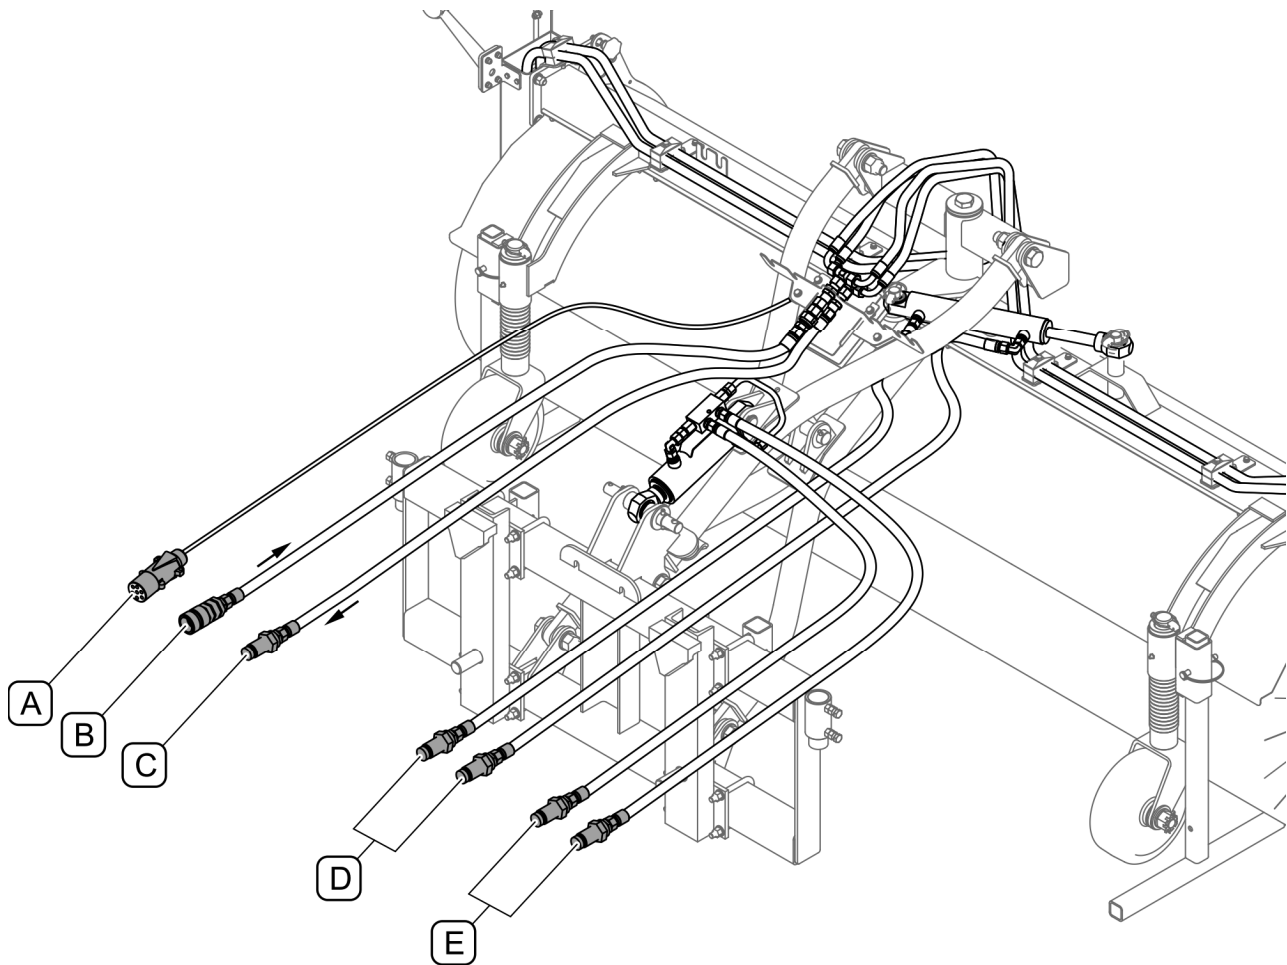
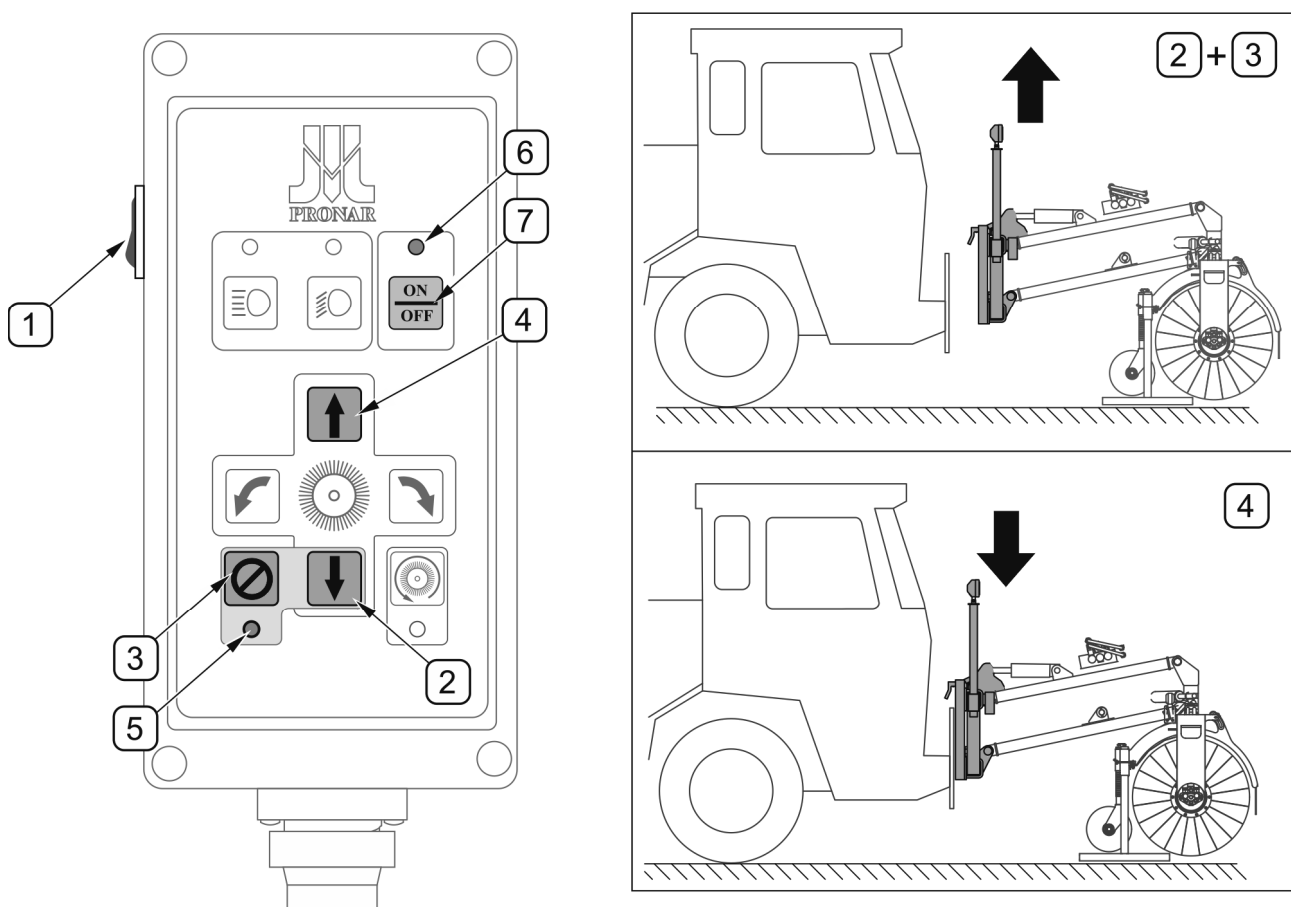
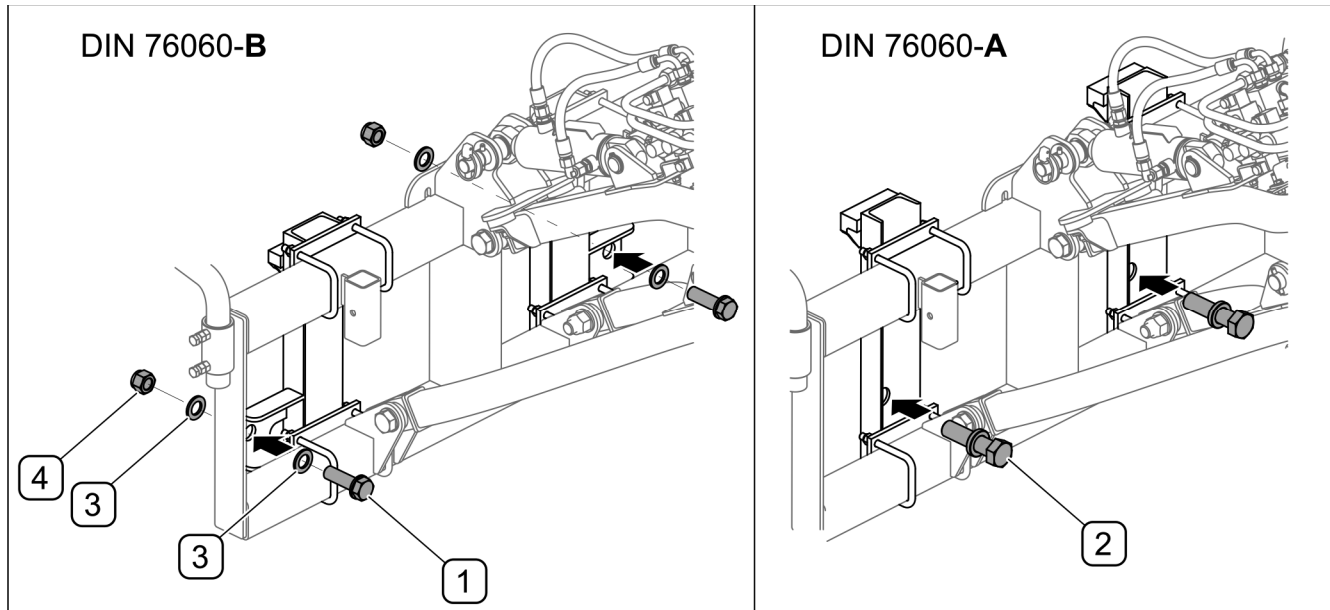
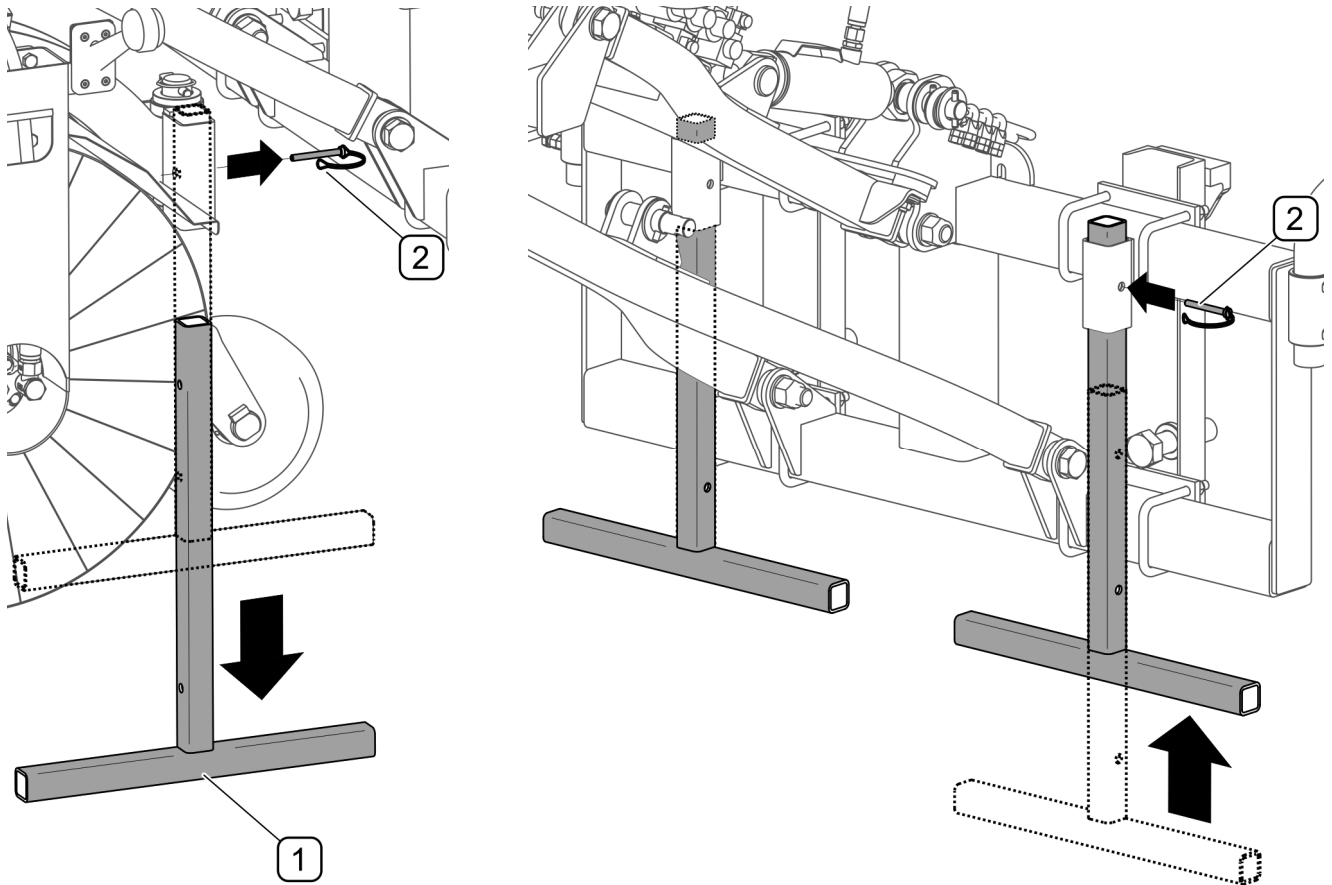

FIG. 4.4 Connecting the electrical system and hydraulic system (ZM-S25U)
FIG. 4.6 Controlling the sweeper during hitching to carrying vehicle (ZM-S25)
FIG. 4.7 Bolts securing the sweeper's linkage (sweeper's equipment)
FIG. 4.8 Dismantling parking stands
ZM-S25U sweeper (for MB UNIMOG vehicles) is designed for connecting with the external hydraulic system of the carrying vehicle (FIG. 4.4). Connect hydraulic conduit connectors (B),(C),(D), (E) and supply plug (A) of the sweeper's clearance lights to proper sockets on the front of the carrying vehicle (FIG. 4.4).
- 2) Turn on the control panel with the switch (1) (FIG. 4.6), all indicator lights will light up (for approx. 1 sec.) And go out except for the yellow (6) ON/OFF which flashes. After pressing the (7) ON / OFF button the panel is active, the lamp (6) is on. While pressing the buttons (2) and (3) simultaneously, raise the sweeper suspension system so that the mounting hooks are above slots of mounting plate.
- 4) If the mounting hooks and the carrying vehicle head plate are correctly aligned, operate switch (4) on the control panel (FIG. 4.6) in order to lower the sweeper's linkage onto the carrying vehicle's head plate. Check if correctly installed. Lift the sweeper and check if correctly hitched. Using two bolts, connect the frame of the sweeper's linkage with the carrying vehicle's head plate (FIG. 4.7). Dismantle both parking stands (FIG. 4.8). Place the control panel in the operator cab in an easily accessible place.
While hitching and unhitching from the carrying vehicle, the machine should rest on the ground on parking stands. In order to raise the sweeper's linkage while hitching to the carrying vehicle, press simultaneously brush lowering push-button (2) and linking push-button (3) on the control panel (FIG. 4.6). In order to lower the sweeper's linkage, press brush rising push-button (4).
- 1) Drive the carrying vehicle to the sweeper's linkage to a distance of about 30 cm from the linkage and immobilise the vehicle with parking brake. Connect hydraulic conduit connectors (FIG. 4.4) to corresponding sockets of the external hydraulic system on the front of the carrying vehicle.
- 4) If the mounting hooks and the carrying vehicle's head plate are correctly aligned, lower the sweeper's linkage until the mounting hooks are set in the seats of the carrying vehicle's head plate. Using two bolts, connect the frame of the sweeper's linkage with the carrying vehicle's head plate (FIG. 4.7). Lift the sweeper and check if correctly hitched. Connect the supply plug of the clearance lights (FIG. 4.4) to the socket of the carrying vehicle's electrical system. Dismantle both parking stands (FIG. 4.8).
(1) - bolt M24X80-8.8-A2J (for B type DIN plate); (2) - securing bolt M30 220N-95050000 (for A type DIN plate); (3) - washer 24-100HV; (4) - self-locking nut M24-8-A2J
Bolts (1) or (2) (depending on type of linkage) prevent the sweeper's linkage frame and the carrying vehicle's head plate from disconnecting (FIG. 4.7)
Depending on type of the carrying vehicle's linkage, (FIG. 4.7) tighten the securing bolts using the following tightening torques:
The sweeper is equipped with two parking stands (FIG. 4.8). To dismantle the parking stand: